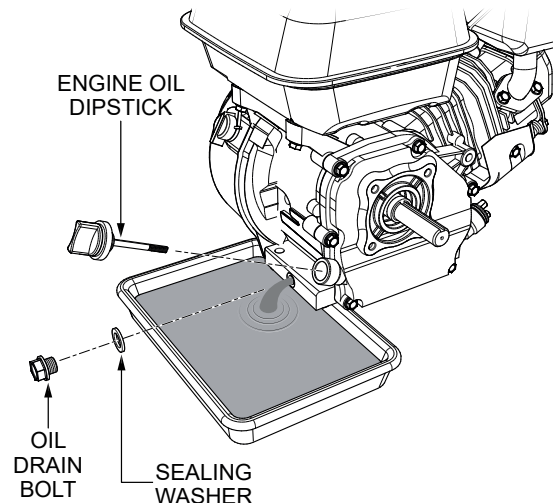

Figure 38. Draining Engine Oil
2. Drain the engine oil when the oil is warm as shown in Figure 38.